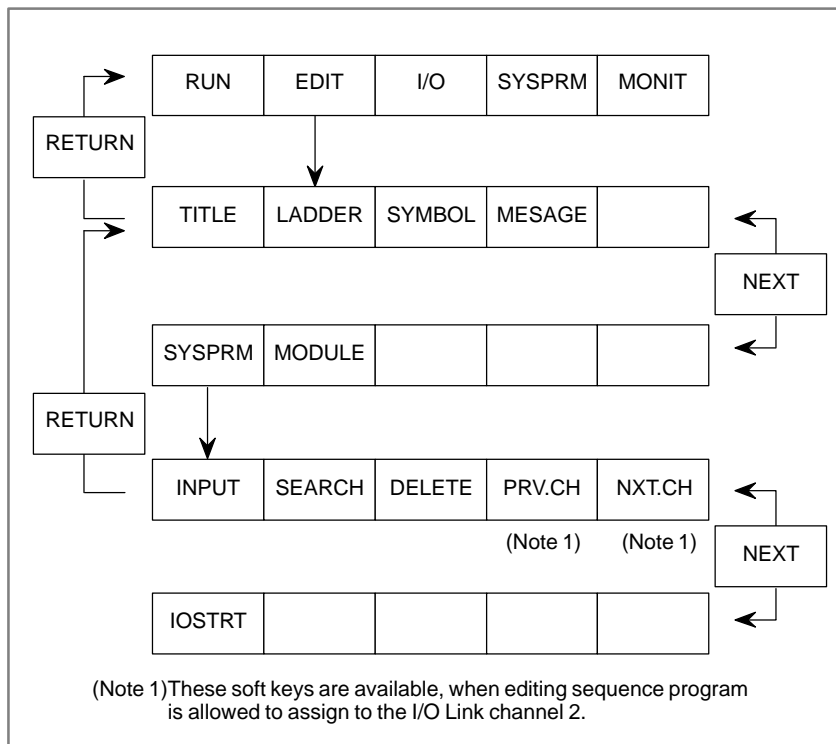

Fig. 5.3 Address setting for I/O unit
- 1 Move the cursor to the address to be deleted, and press soft key [DELET] (see Fig. 5.3).
(3) Soft key [SEARCH]